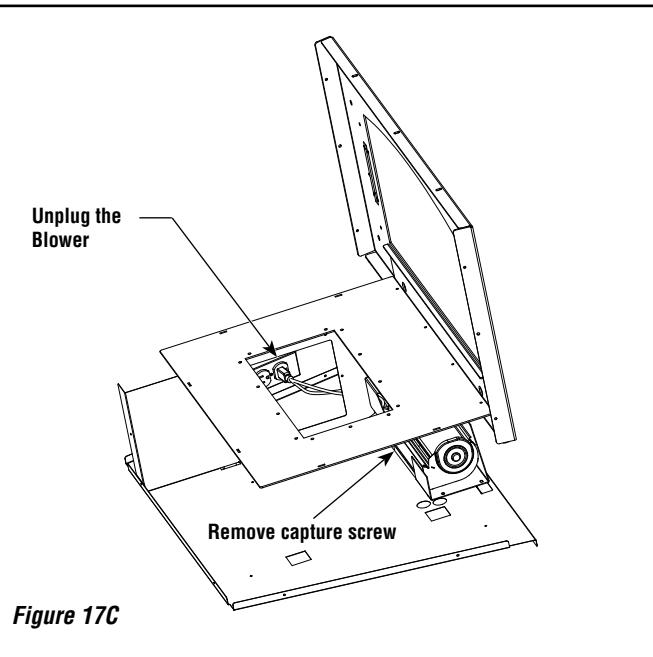

Figure 17C
6. Remove the 5/16" hex head capture screw located at the front of the blower assembly (**Figure 17C**).